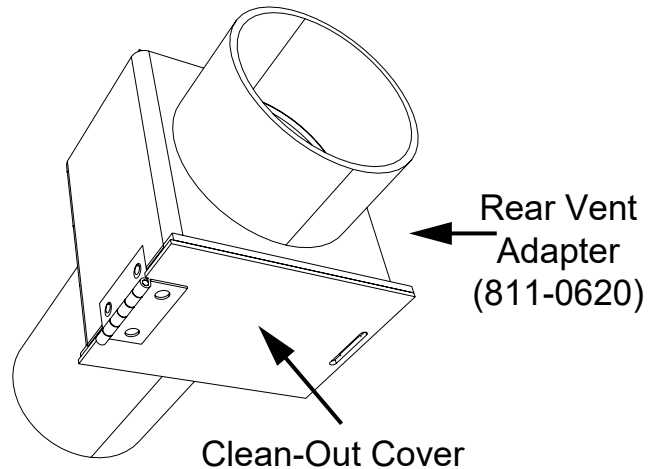

Figure 23.2 - Rear Vent Adapter
1. Put a layer of high temperature silicone on the 3 inch (76mm) exhaust outlet. Do not put silicone inside of pipe (**Figure 23.2**).